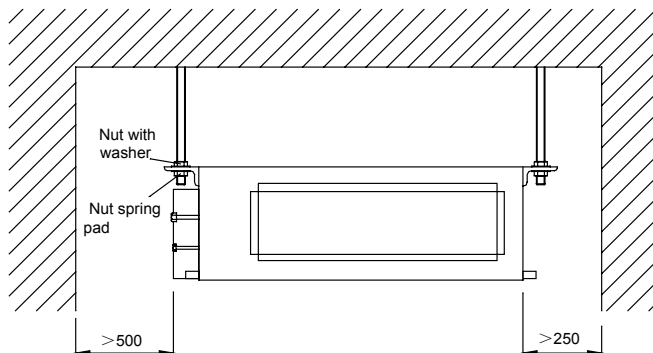

Fig.1
- (1) Ensure the top hanger is strong enough to withstand the weight of the unit.
- (2) The drainage of the drain pipe is easy.
- (3) No obstacle is in the inlet/outlet and the air circulation is in good condition.
- (4) Ensure the installation space shown in Fig.1 is left for the access to maintenance.
- (5) It should be far away from where there is heat source, leakage of inflammable, explosive substances, or smog.
- (6) It is the ceiling type unit (concealed in the ceiling)
- (7) The power cords and connection lines of the indoor and outdoor units must be at least 1m away from the TV set or radio to avoid the image interference and noise (even if 1m is kept, the noise may be produced due to the strong electric wave.)